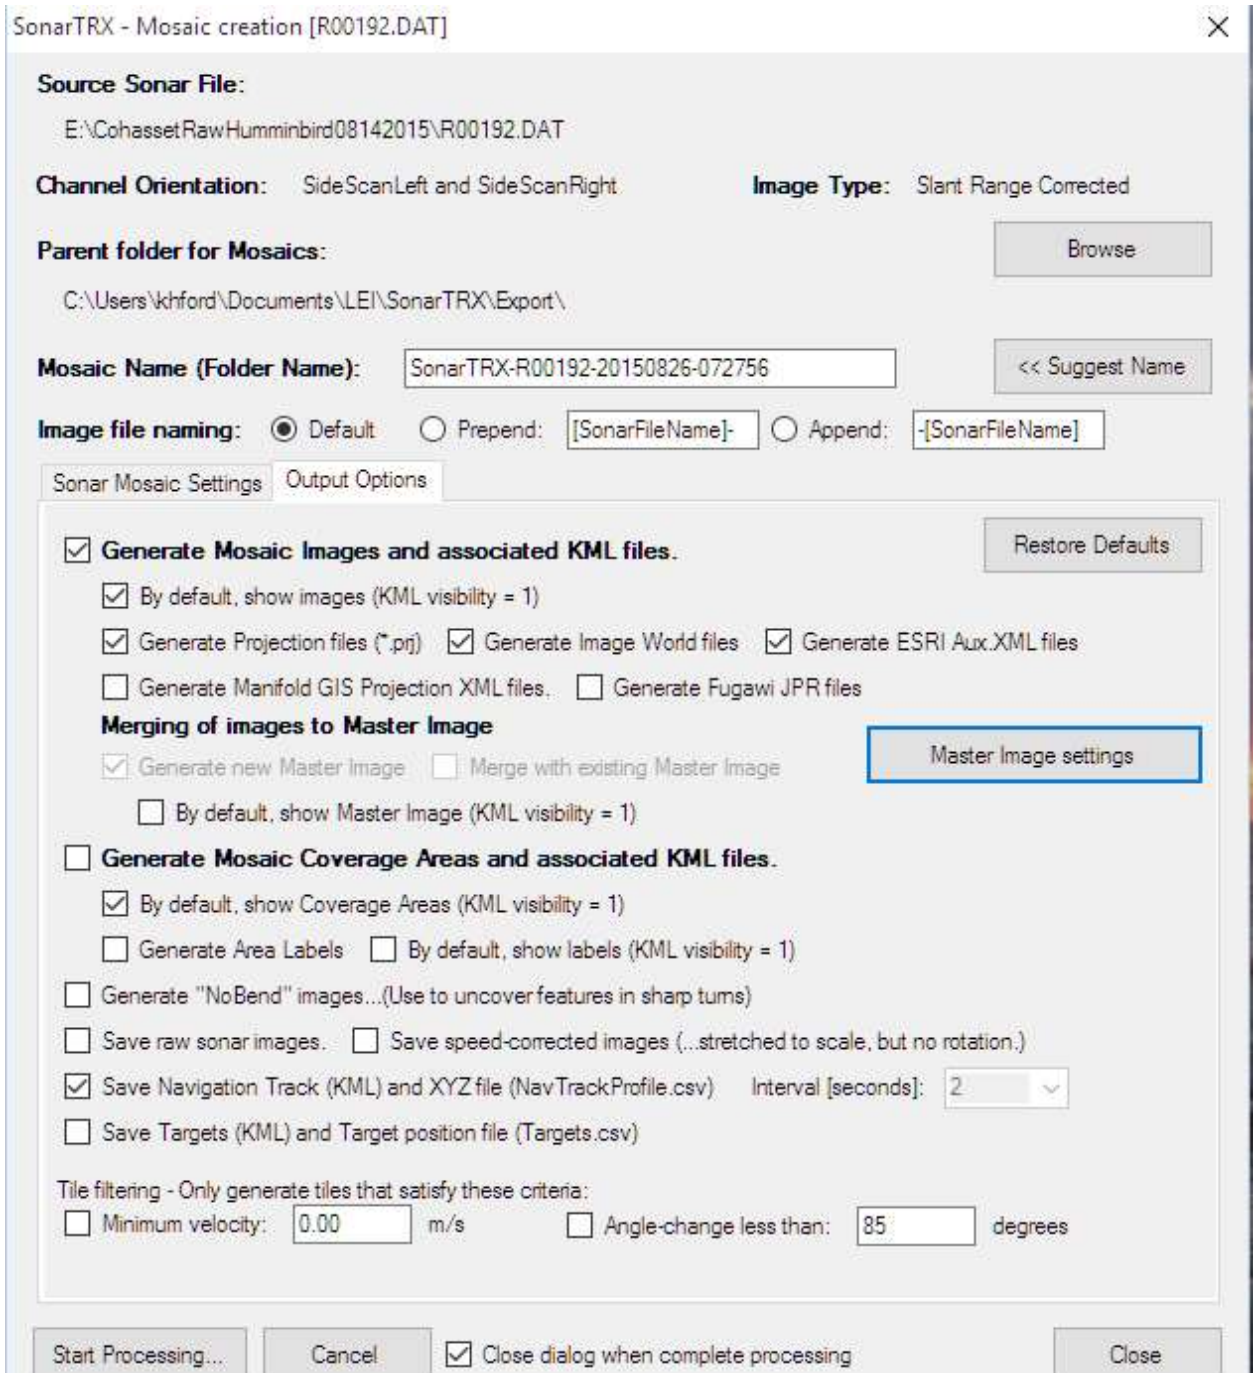

Figure 4-5. Create Mosaic, Output Options tab.
- Click on the Output Options tab. Use the settings in Figure 4-5.